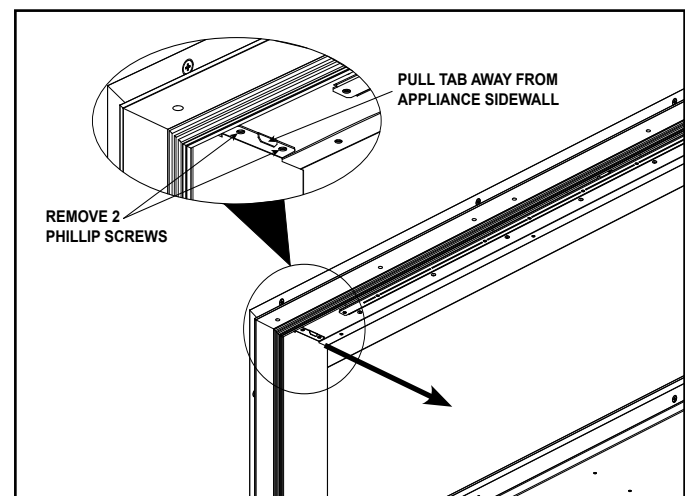

Figure 4.5 Side Panel Removal
Remove the left and right interior side panels by removing the two (2) screws attaching them to the appliance ceiling. Use the small tab located on the top of each panel to pull the top downward and away from the appliance sidewall. The panel's bottom tab will lift out of the appliance. Repeat for both sides. See Figure 4.5.